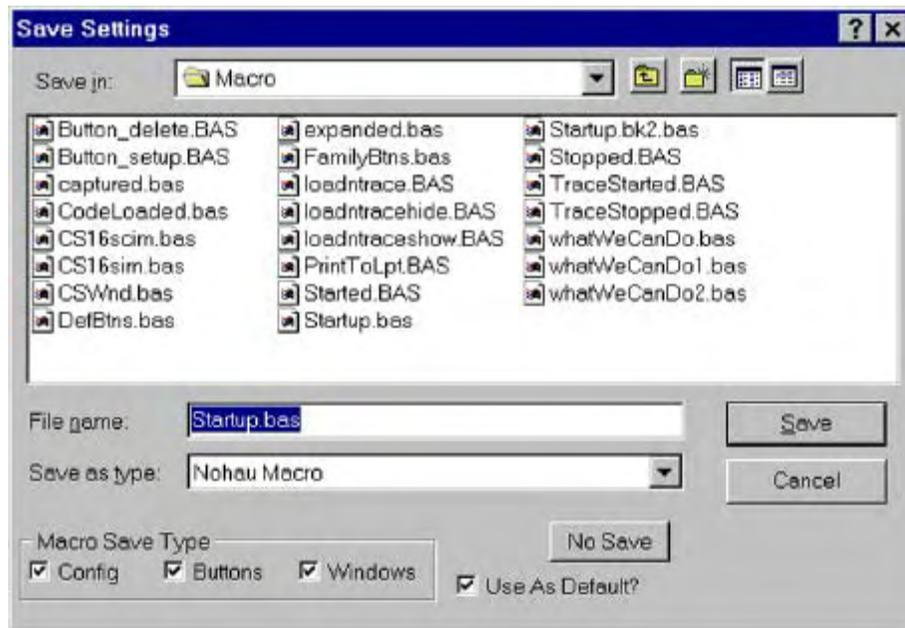

Figure 63. Save Settings Dialog Box
1. Click the X (Close button) at the far upper right corner of the title bar or from the **File** menu, select **Exit**. The **Save Settings** dialog box opens (Figure 63).